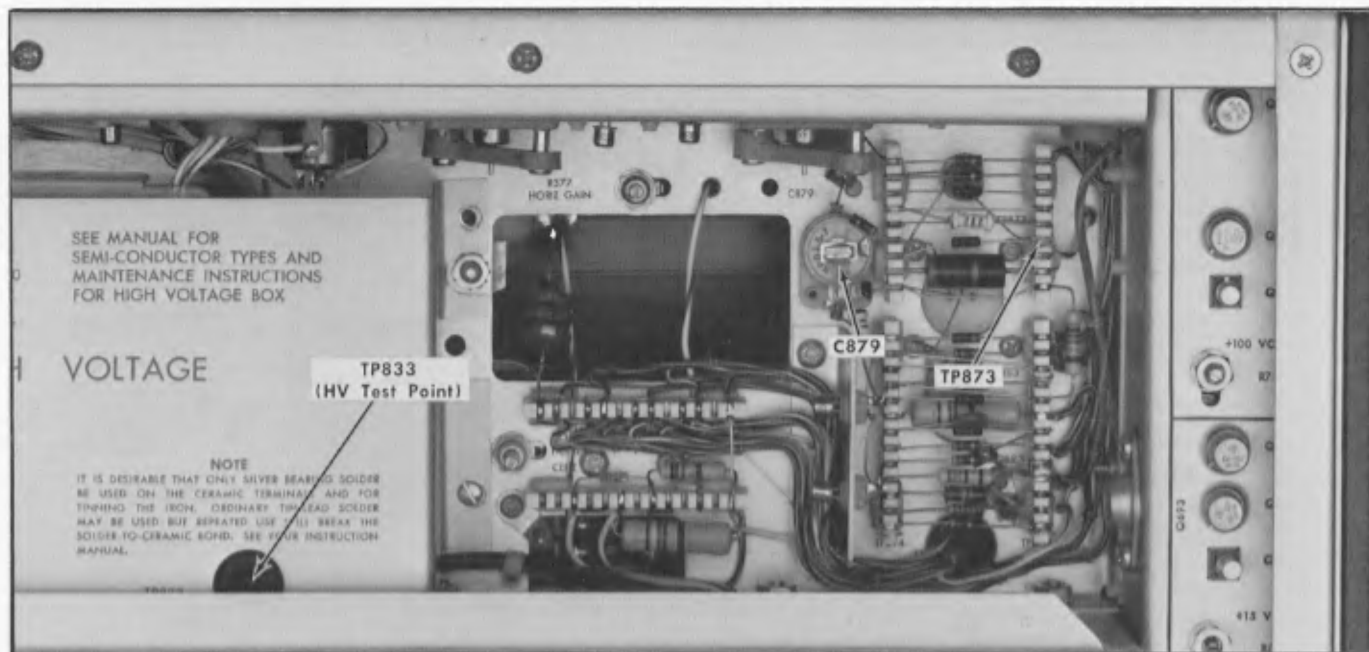

Fig. 6-7. Location of C879, TP833 (HV test point) and TP873 (emitter test point on Q873).
- Connect a DC voltmeter between ground and the HV test point, TP833, see Fig. 6-7.
g. Connect a $10\times$ probe from the input connector on the plug-in of the test oscilloscope to TP873 (emitter test point on Q873), see Fig. 6-7.
①
g. ADJUST—C879 (see Fig. 6-7) for an optimum flat topped pulse.
- c. Connect a DC voltmeter between ground and the HV test point, TP833, see Fig. 6-7.